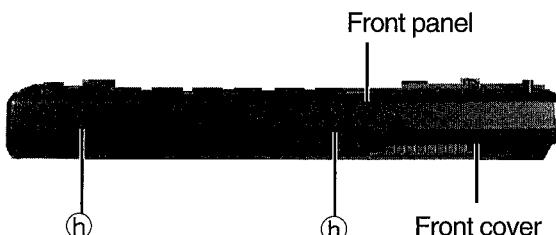

Fig. 12
**■ Removing the Head Amplifier Board ( See Fig. 12 )**
6. Remove the screw ⑥ retaining the head amplifier board.
7. Shift the two inter rocking sections ⑨ securing the head amplifier board in the direction shown by the arrow "A" to remove the printed circuit board.